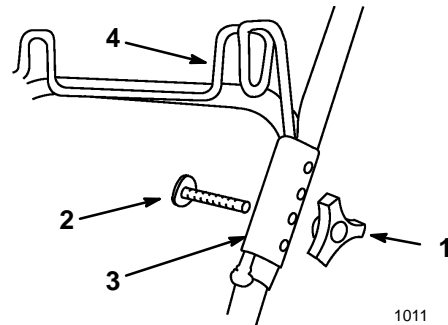

Figure 40
- 9. Remove the knob and bolt securing the left side upper and lower handle sections (Fig. 40).
- 10. Hold a hanger clamp on the outside of the handle sections, and insert a bolt from the inside of the handle sections through the holes in the hanger clamp (Fig. 40).
- 11. Position the bag hanger leg into the hanger clamp groove and secure it with a knob (Fig. 40).
- Remove the bolts and knobs securing the hanger clamps to the handle sections (Fig. 40).